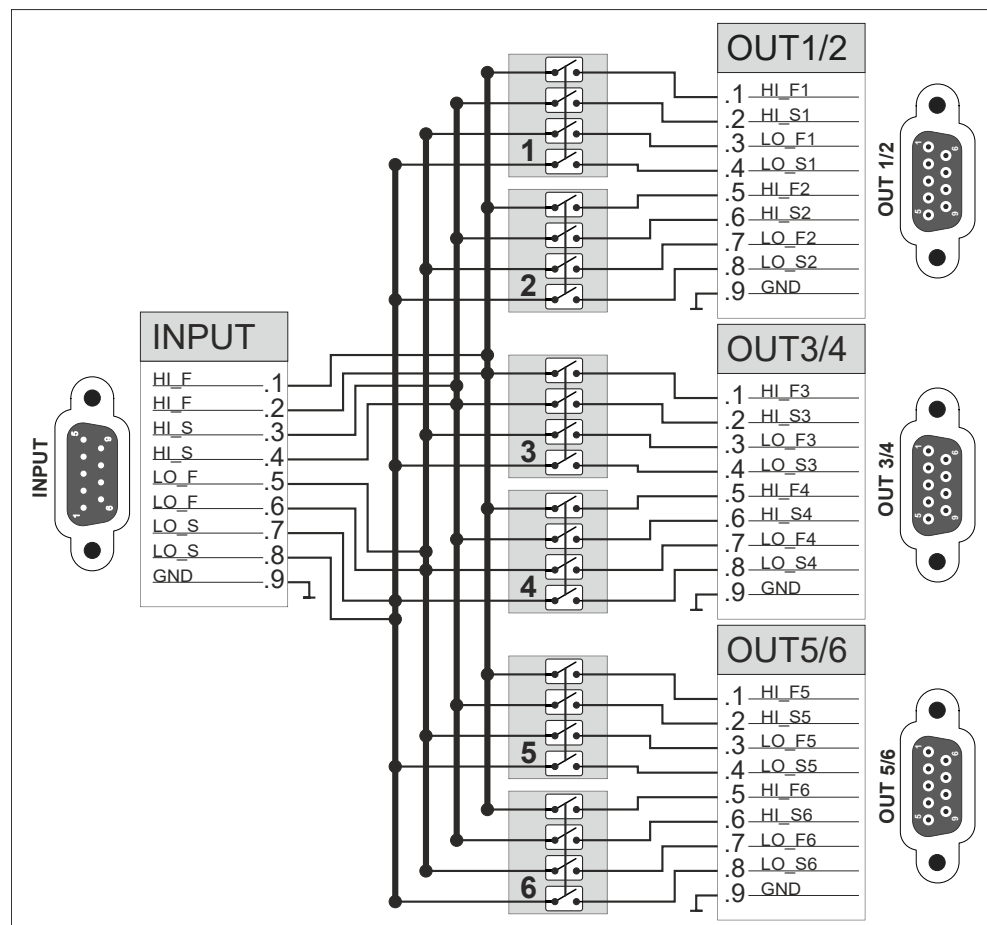

Figure 4-39: Block diagram of DC multiplexer module R&S OSP-B108, here shown with no position closed
- The 4 **input** lines are available on 8 pins (in groups of 2) to have a higher power capability on the common upper left 9-pin D-Sub [INPUT] connector (male). The remaining pin 9 is connected to ground (GND), see Figure 4-39.
- The 6x 4 **output** lines are available on the first 8 pins of the three 9-pin D-Sub [OUTPUT] connectors (female). The remaining pin 9 of each output port is connected to GND, see Figure 4-39.
Note that the switching of positions 1 to 6, shown in the center of Figure 4-39, are independent of each other. Therefore, more than one switch can be closed at a time.